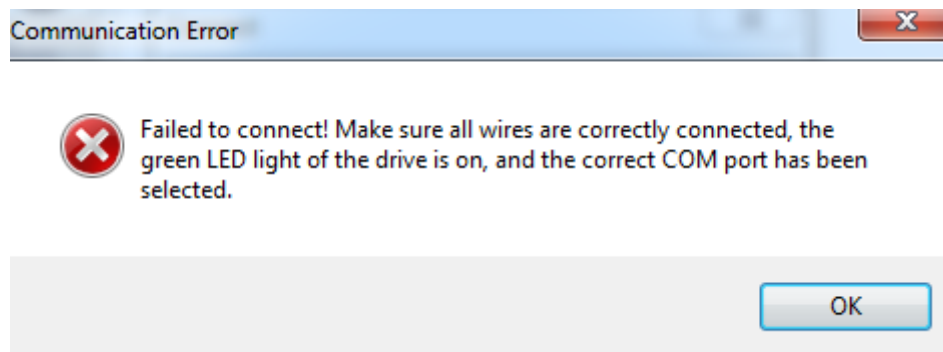
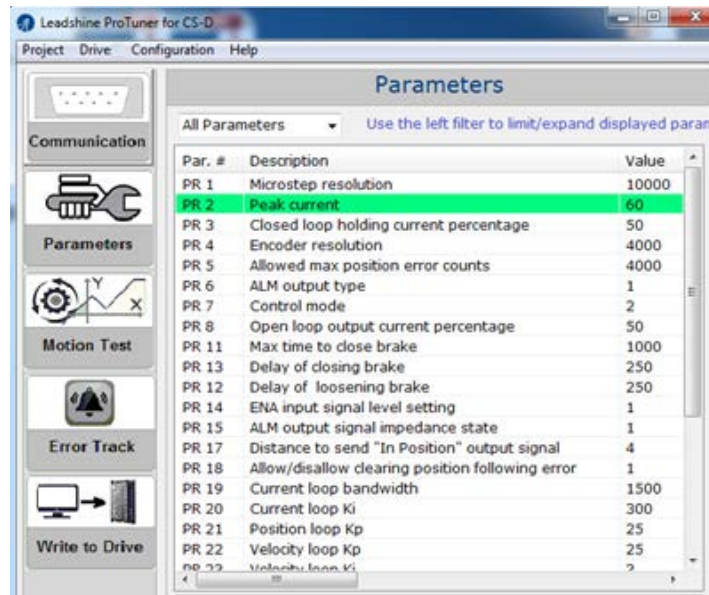

Figure 6: Communication error message
Figure 7: Parameters
- Click “Connect” button and wait a few seconds. If the drive has been successfully connected, the “Parameters” screen (Figure 7) will be automatically displayed with all the parameter values uploaded from the connected drive. Otherwise, the following error message will be displayed (Figure 6).
After the CS-D closed loop stepper drive is successfully connected to computer, its current settings will be automatically uploaded and displayed (Figure 7). The Parameters window can also be opened any time by clicking the “Parameters” icon on the left toolbar or Configuration->Parameters menu item.